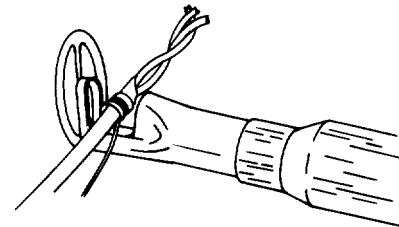

Figure 25. MG-1 Reflector
- a. MG-1. Used for heating solder termination sleeves and shrinking small-diameter tubing. Used for concentrated, high-temperature heating and tubing reflector and comes with heating tool when ordered (Figure 25).